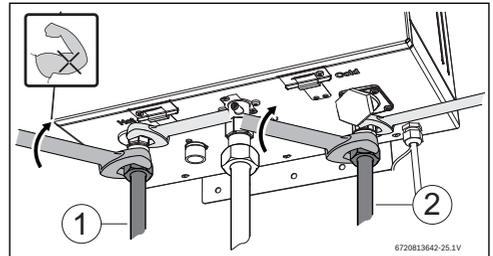

Fig. 13
- ▶ Tighten all water connections with the support of a wrench, see Fig. 13.